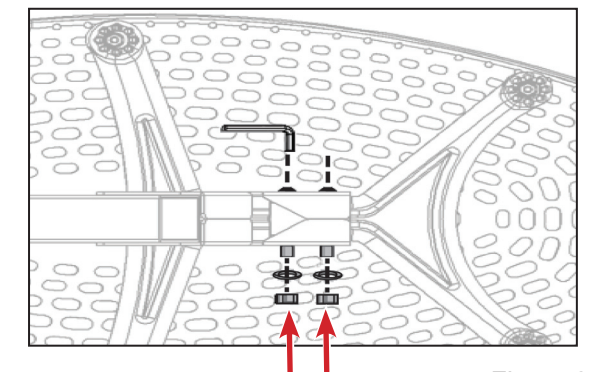

Figure 2
- Using the Allen Wrench (EP-1128) to steady the bolts, tighten the nut onto the bolt with the larger wrench (F5-1088) (Figure 2). Repeat with second bolt.